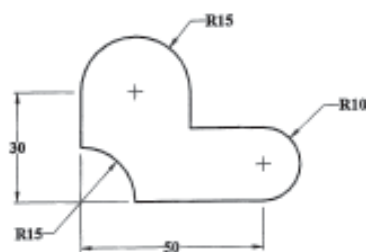

Fig: 1
1. a) Draw neat sketch and label it to show the basic terminology of press tool for the component shown in fig. 1. Also state the different types of die set and which one is shown in your sketch. **8**
b) What is C.P. ? Find it for the blank shown in fig.1. **8**
2. Design a blanking die to produce a component as shown in fig.1.